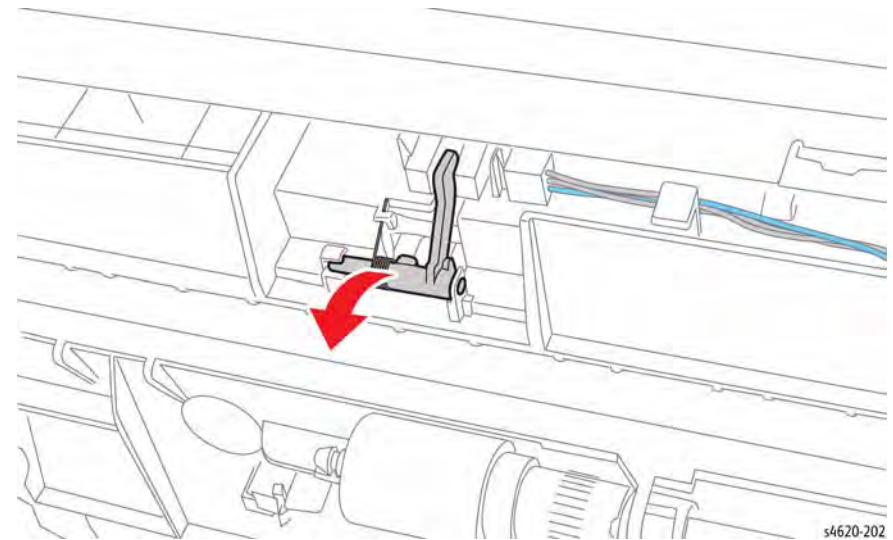

Figure 1 Remove the Take Away Sensor Actuator
4. Release the actuator from the tabs to remove, Figure 1.